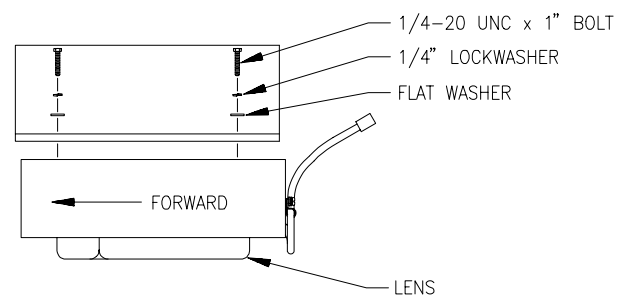

FIGURE 3
- 5) Bolt Radar to mounting bracket using mounting hardware. See Figure 3.